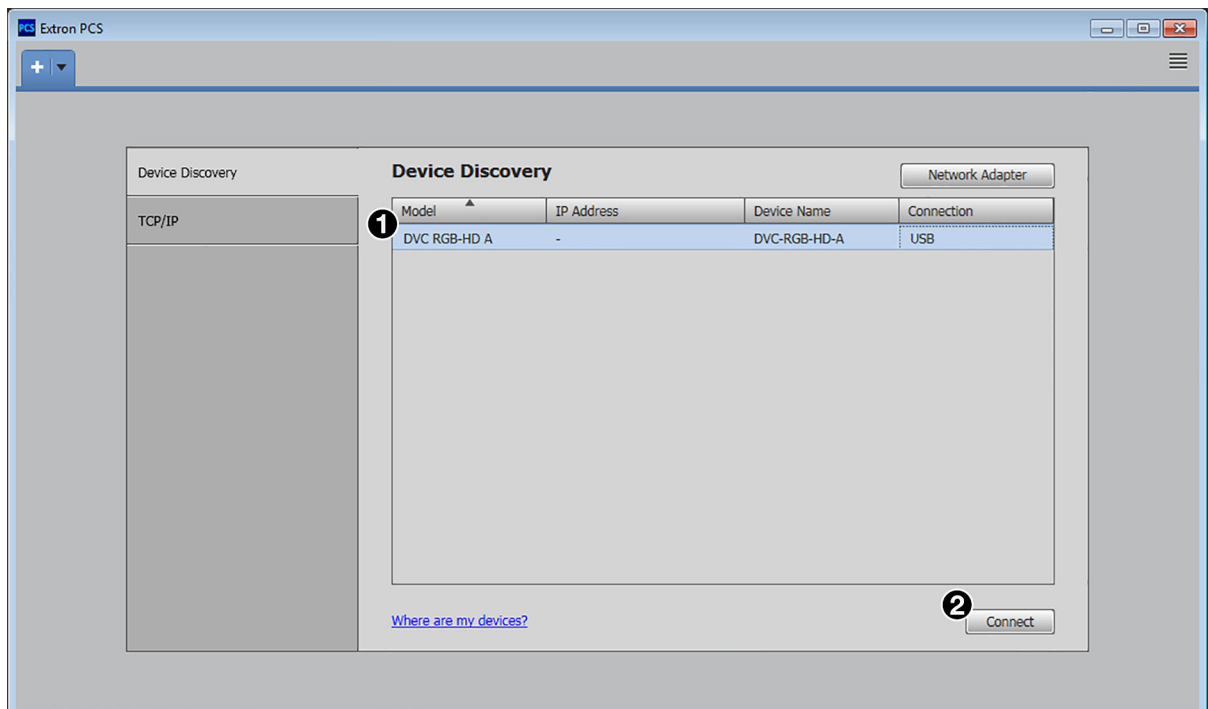
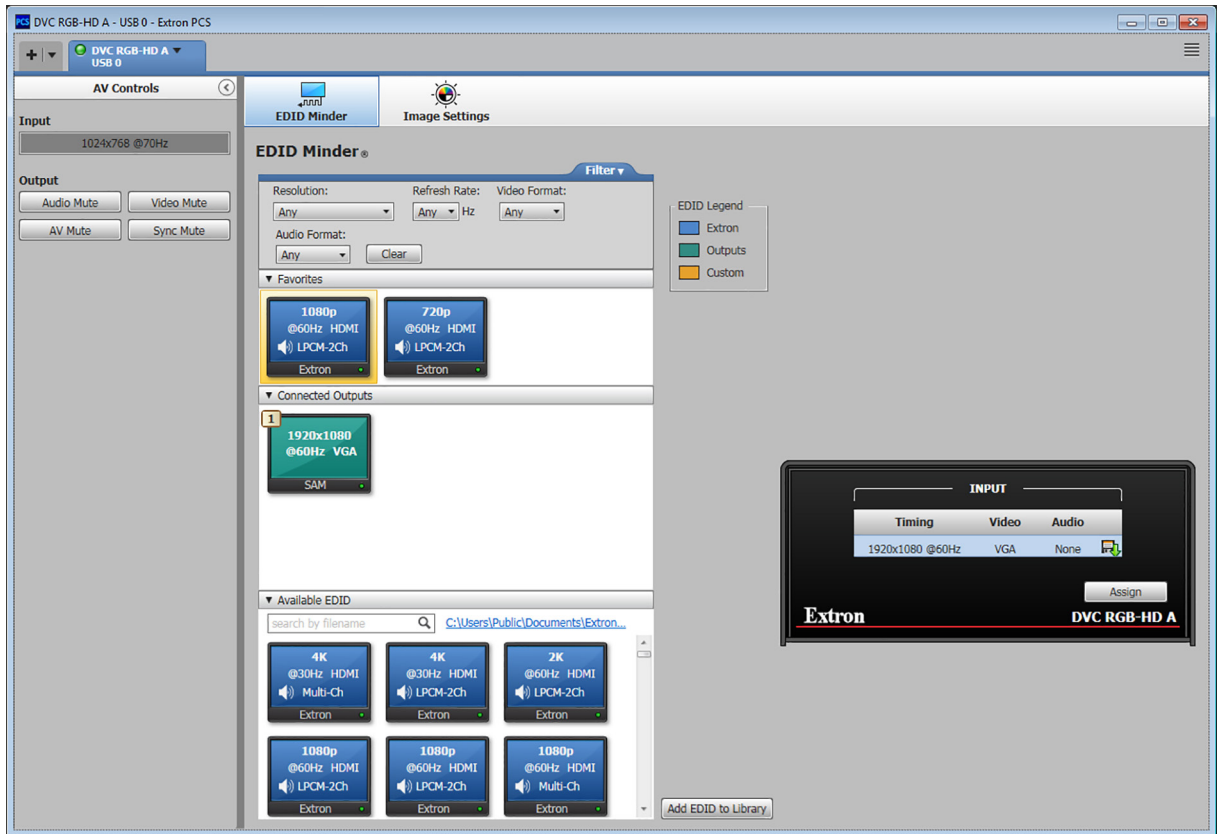

Figure 12. Device Discovery Panel
Figure 13. DVC RGB-HD A Main Window
3. In the Device Discovery panel of the PCS window, click on **DVC RGB-HD A** (see figure 12, ①). You may need to scroll to locate it, depending on the number of devices listed. The **Connect** button in the bottom-right corner becomes available.
4. Click **Connect** (see figure 12, ② on the previous page) or double-click on the product name (see figure 12, ①) to open the DVC RGB-HD A main window (see figure 13, below).